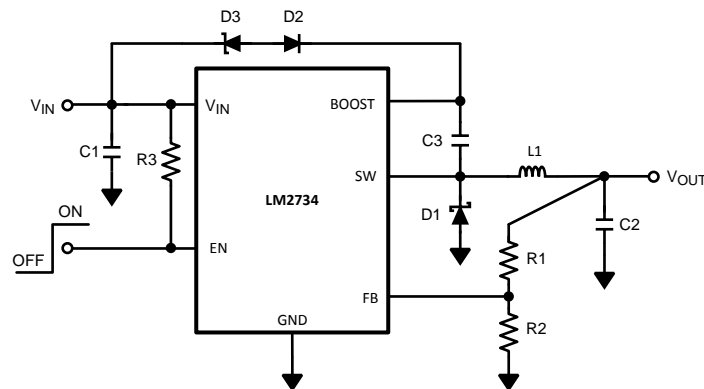

**Figure 29. LM2734X (1.6MHz)**
**Table 3. Bill of Materials for Figure 29**